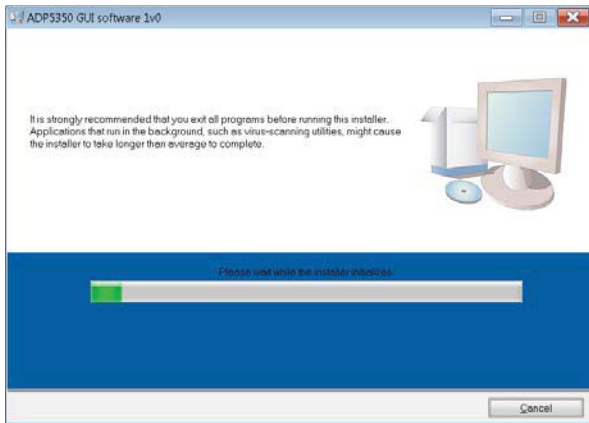

Figure 2. ADP5350 Evaluation Software Setup
1. Launch the **Setup.exe** file. The dialog box shown in Figure 2 appears.